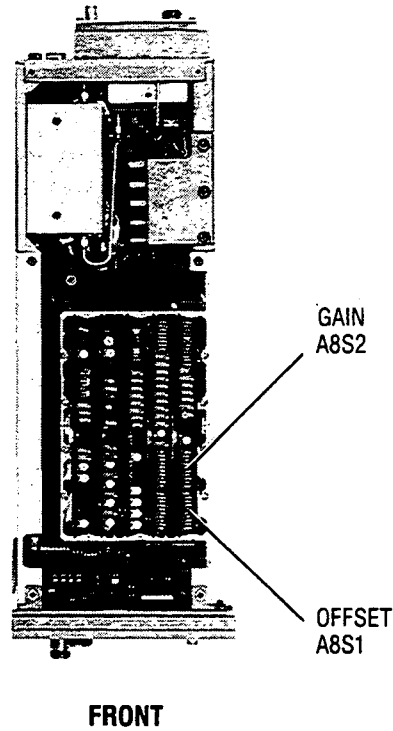
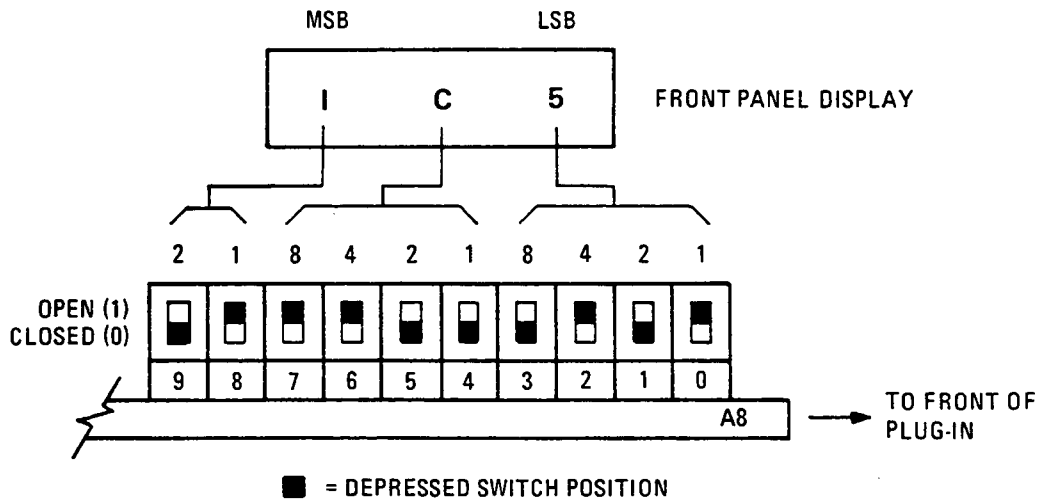

Figure 5-9. Frequency Calibration Adjustment Location
Figure 5-10. A8S1 and A8S2 Frequency Calibration Switch Configuration
8. Set switch A8S1 for the hexadecimal value displayed in the HP 83592B POWER display (See Table 8-4 in the service section). Refer to Figure 5-9 for the location of the frequency calibration switches. Refer to Figure 5-10 for an illustration of the calibration switch configuration.